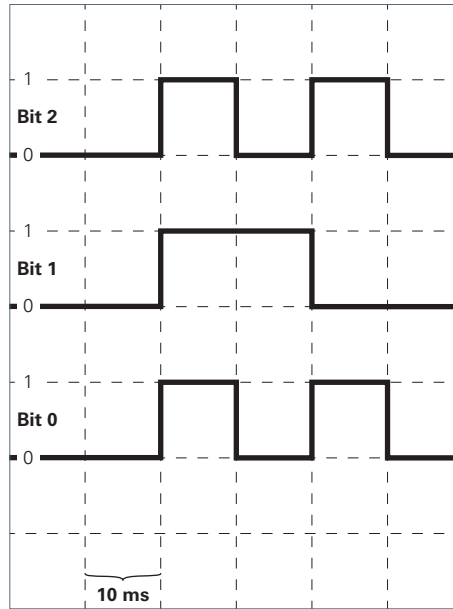

Fig. 8: Bit sequence to activate the operating mode "Combined operation WHITE+RGB".
- Send the bit sequence for activation to the connection cable with the white luminaires and the RGB luminaire, see Fig. 8.